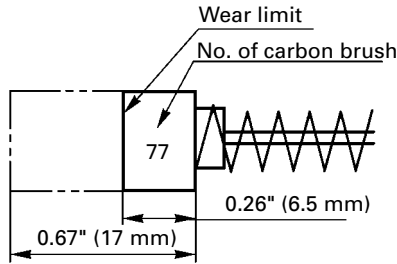

Fig. 21
5. Inspecting the carbon brushes: (Fig. 21)
NOTE: Use HITACHI carbon brush No. indicated in Fig. 21